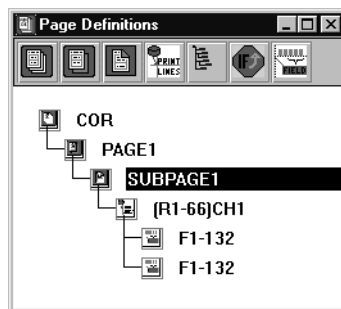

Figure 38. Page definition for sample COR layout
5. If you change the repeat value, you may find that there are extra unused printlines in the page definition. It is a good idea to look at the page definition tree. It should be similar to the page definition shown in Figure 38.